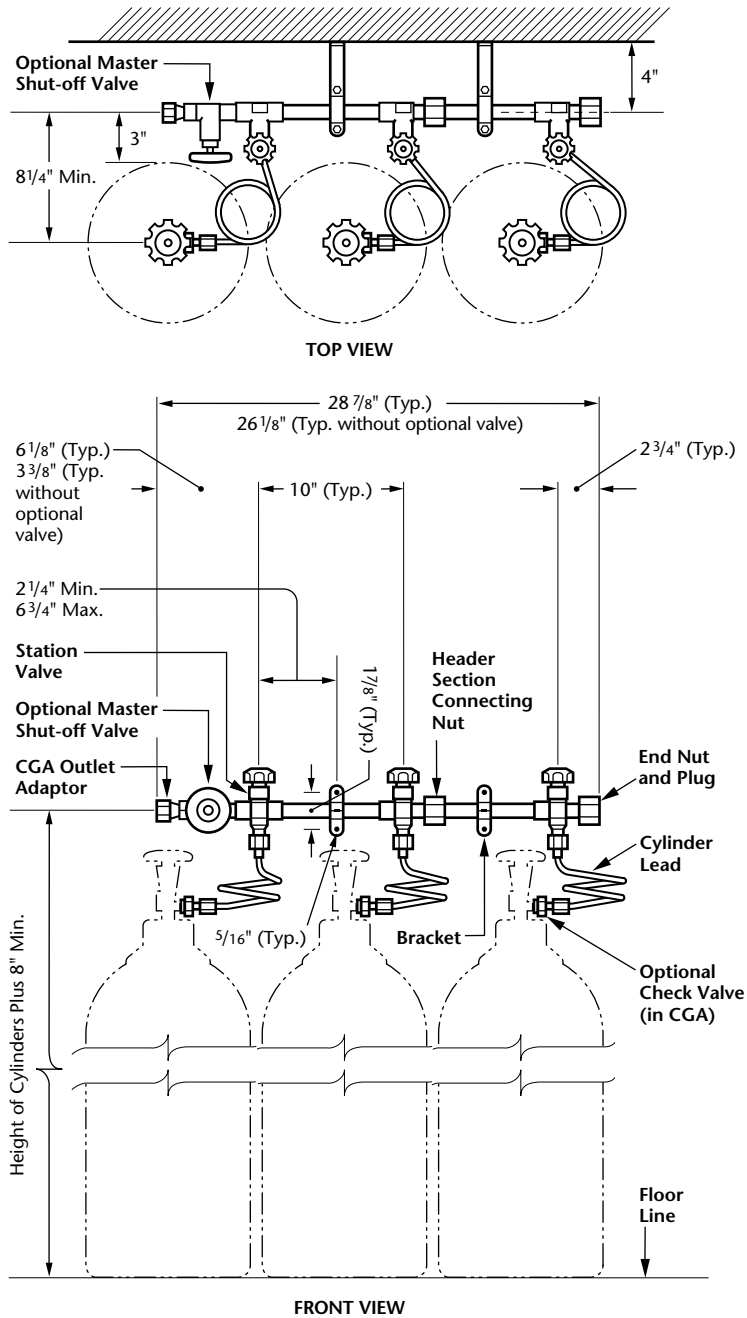

Figure 1 – Typical Installation of a Single Row (SR Series) Manifold
3. Securely mount the manifold on a wall or pedestal. Mounting dimensions are shown in Figs. 1 and 2 (see pages 6 and 7).